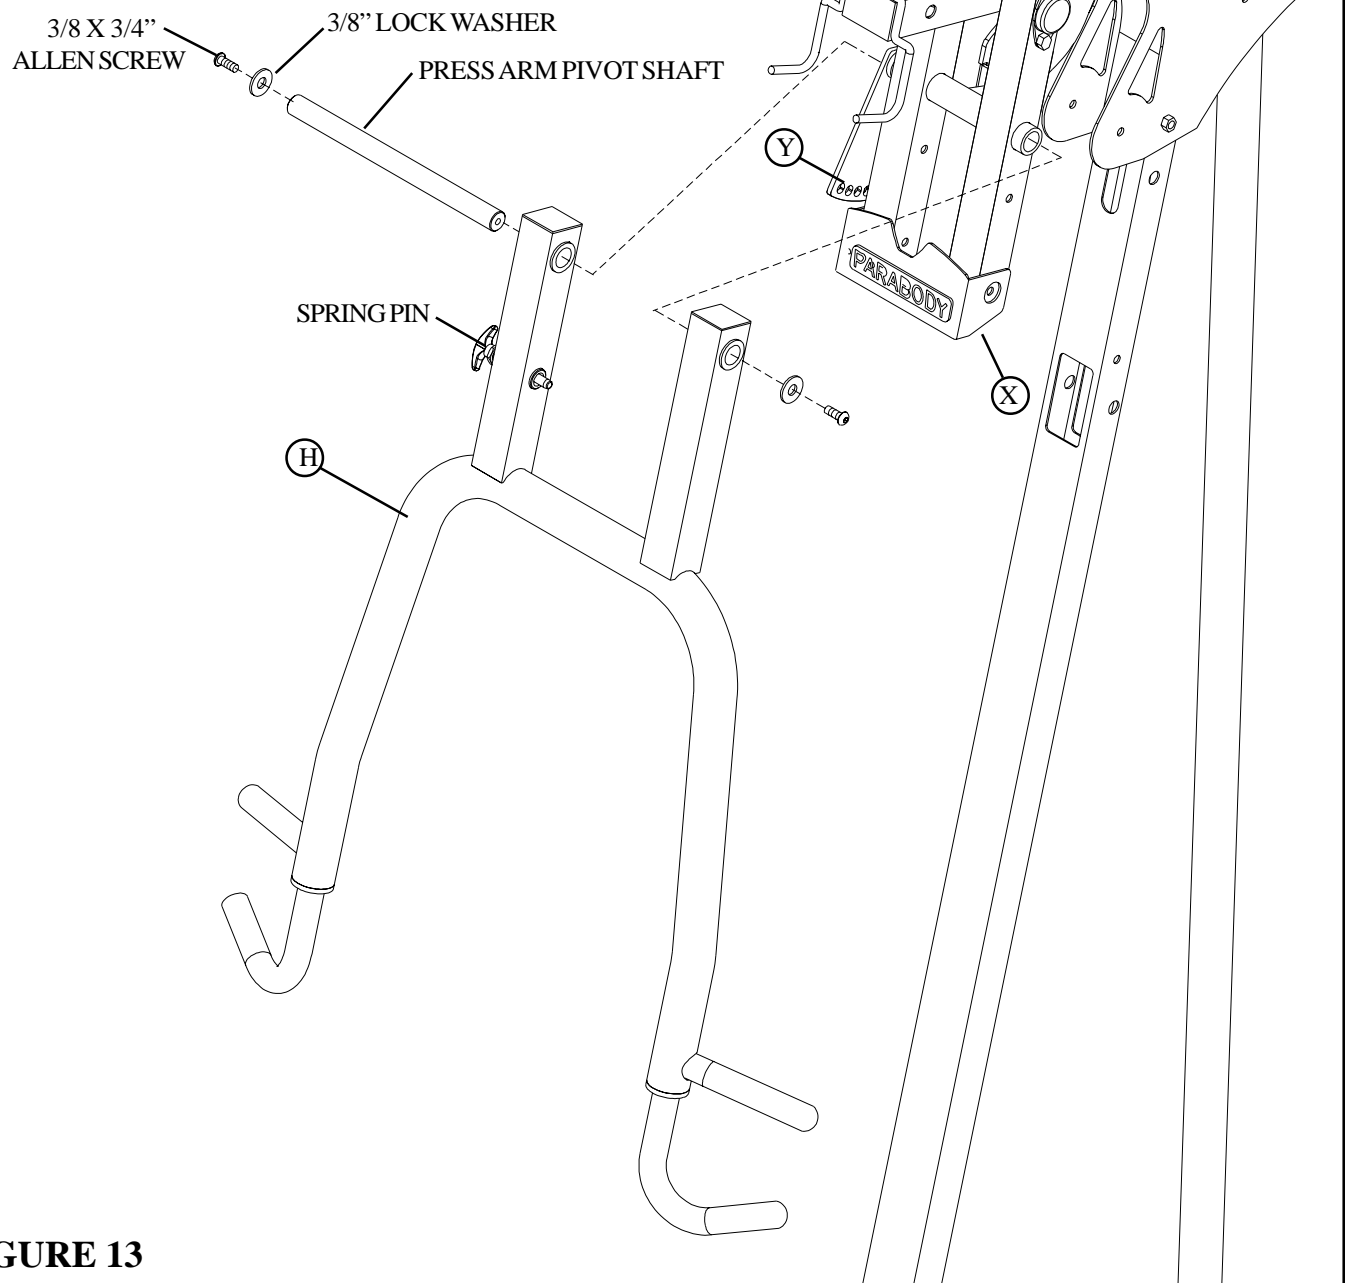

FIGURE 13
- Disassemble the PRESS ARM PIVOT SHAFT from the PRESS ARM (H) by removing the two 3/8 X 3/4" ALLEN SCREWS and two 3/8" LOCK WASHERS as shown in FIGURE 13.
- Insert the PRESS ARM PIVOT SHAFT thru the PRESS ARM (H) and the PRESS ARM SUPPORT FRAME (X) and the resassemble the 3/8 X 3/4" ALLEN SCREWS and 3/8" LOCK WASHERS to the PRESS ARM PIVOT SHAFT as shown in FIGURE 13. (**Note: Tighten this connection enough to remove excess play yet allow the PRESS ARM to rotate freely.**)
- Pull back on the SPRING PIN and rotate the PRESS ARM (H) until the SPRING PIN connects with the ROM PLATE (Y)